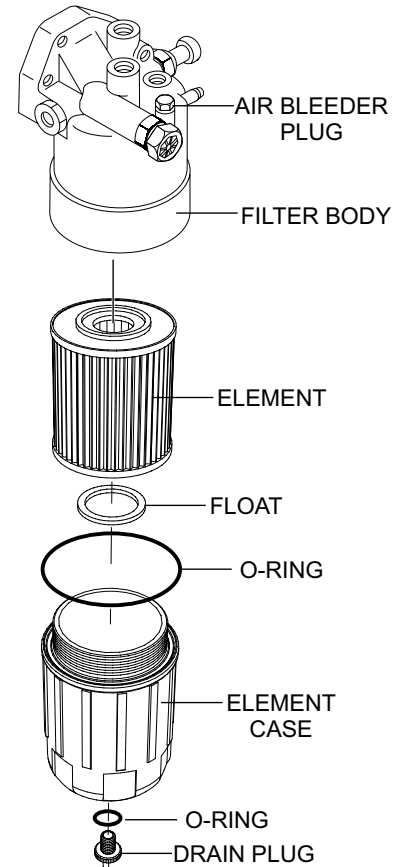

Figure 56. Fuel Filter Replacement
1. Use a filter wrench to remove the element case (Figure 56) from the fuel filter body.